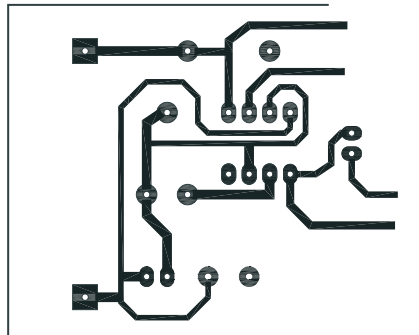

Fig. 2
- (a) PCB layouts are often designed using CAD software. Part of a layout is shown in Fig. 2.